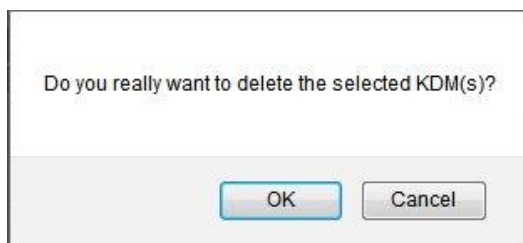

Figure 301: Delete KDM Window
- A window will appear asking to confirm (Figure 301).